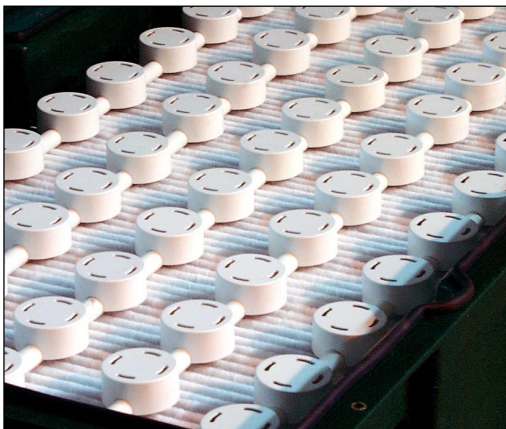

Figure 4: AX20 AdvanTex® filter with aligned textile sheets
In the past three years, performance evaluations have been conducted and reported on by facilities such as the University of California, Davis Campus; NSF International; and NovaTec Consultants, Inc. of Vancouver, British Columbia. The University of California Davis study (Leverenz, et al., 2000) was conducted following standard method composite sampling and testing procedures. The evaluations performed by NSF International and NovaTec Consultants (Vassos and Turk, 2002) were conducted per ANSI/NSF Standard 40 protocol. The ANSI/NSF Standard 40 evaluation resulted in the first ever certification of a packed-bed textile filter under ANSI/NSF Standard 40 for Residential Wastewater Treatment Systems. Over the course of the NSF40 evaluation, the average effluent cBOD₅ was 5 mg/L and the average effluent TSS was 4 mg/L at a hydraulic loading rate of 29.1 gpd/ft². The units evaluated contained vertically aligned textile sheets (AX) as shown in Figure 4. The evaluations successfully established the ability of this configuration to meet advanced wastewater treatment levels and surpassed, by a considerable margin, the effluent quality performance requirements established by ANSI/NSF Standard 40 for Class I effluent.